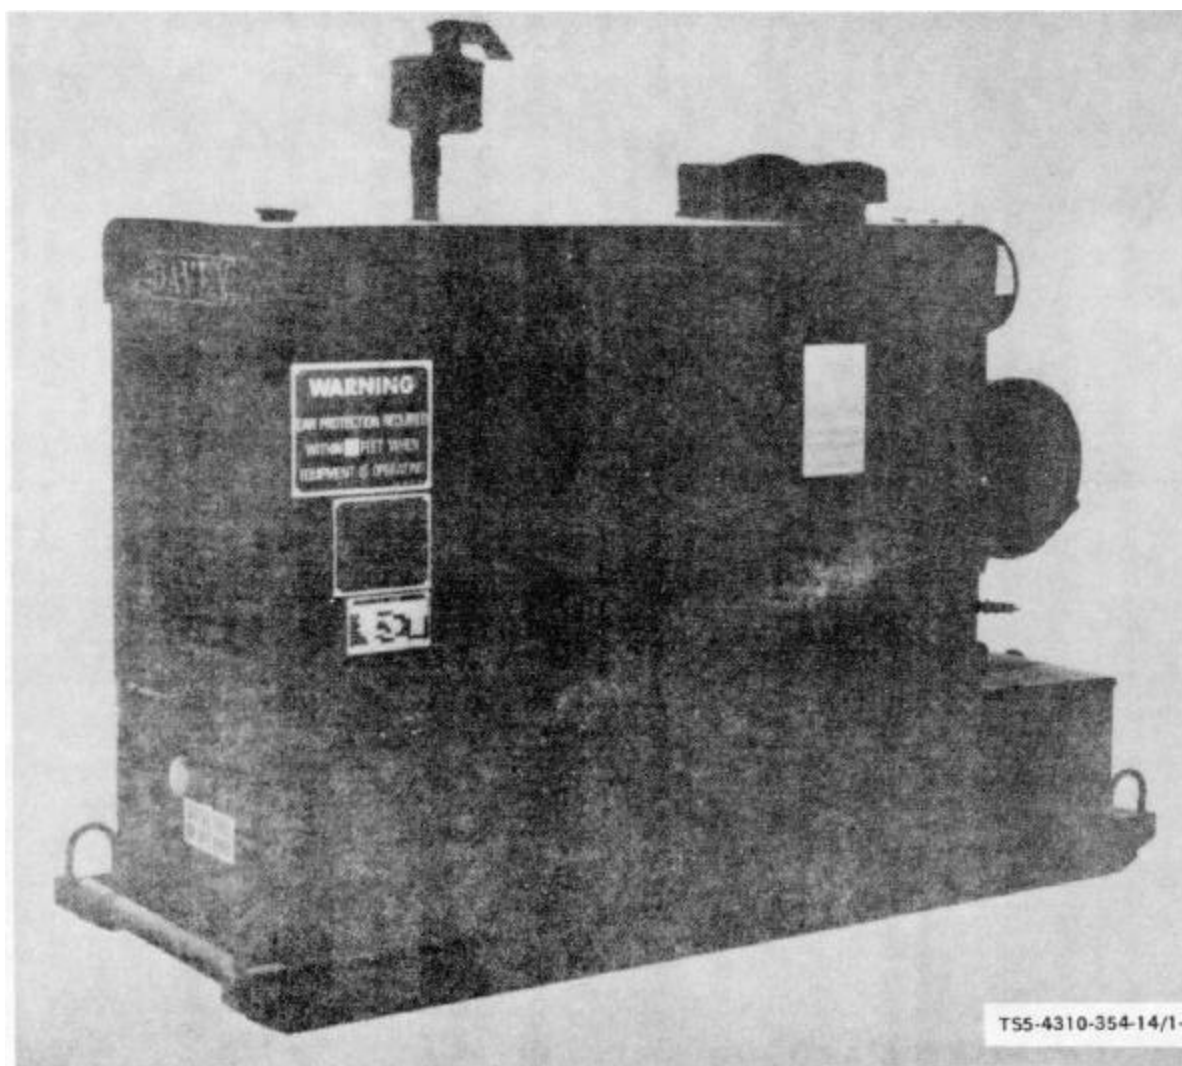

Figure 1-1. Model 6M125 rotary air compressor skid, left front, three-quarter view.
a. The air compressor unit is a skid mounted, diesel engine driven, sliding blade type, rotary air compressor. The unit supplies compressed air at the rate of 125 cubic feet per minute (CFM) (3.5 M3/MIN) at a discharge pressure of 100 pounds per square inch (PSI) (7 kPa). You will find identifying views of the unit in figures 1-1 and 1-2.